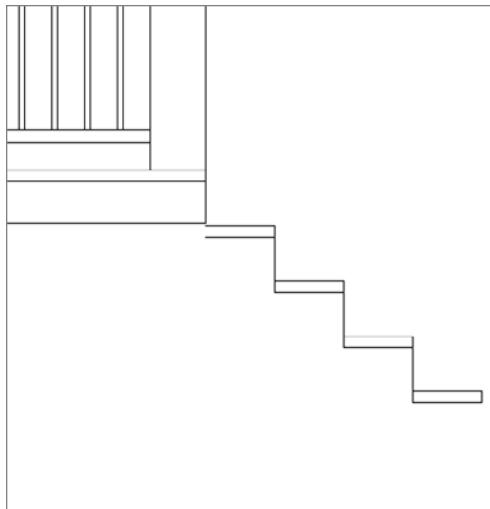

FIGURE 10.27 The steps after trimming away the extraneous lines
5. Next, use the horizontal step lines as cutting edges to trim back the vertical lines, leaving the short, vertical line between each step intact. Your stairway should look like Figure 10.27.